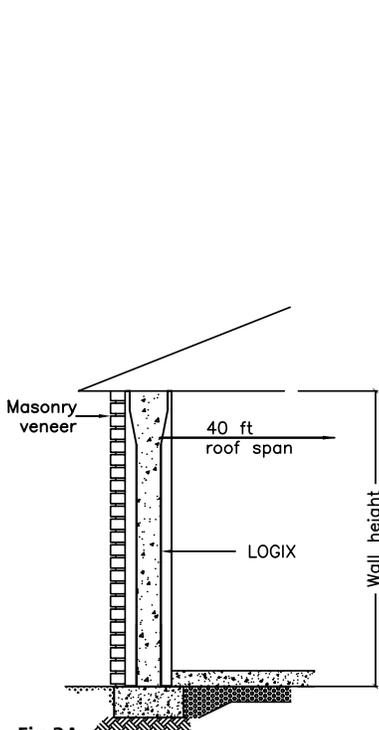

Fig 3A
- One storey Logix supporting wood roof frame (Fig. 3A)
The above-grade tables shall be used in conjunction with the notes listed below, the building limitations noted in the "Reinforcement Tables" section, and Figures 3A to 3B, which form the basis of this table.